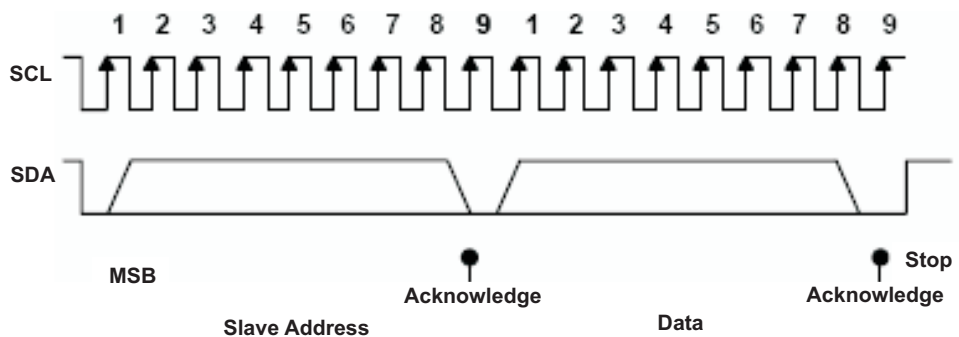

Figure 34. I²C Address and Data Cycles
- The master generates further SCL cycles to either *transmit* data to the slave (R/W bit 0) or *receive* data from the slave (R/W bit 1). In either case, the *receiver* needs to acknowledge the data sent by the *transmitter*. So an acknowledge signal can either be generated by the master or by the slave, depending on which one is the receiver. The 9-bit valid data sequences consisting of 8-bit data and 1-bit acknowledge can continue as long as necessary (see Figure 34).